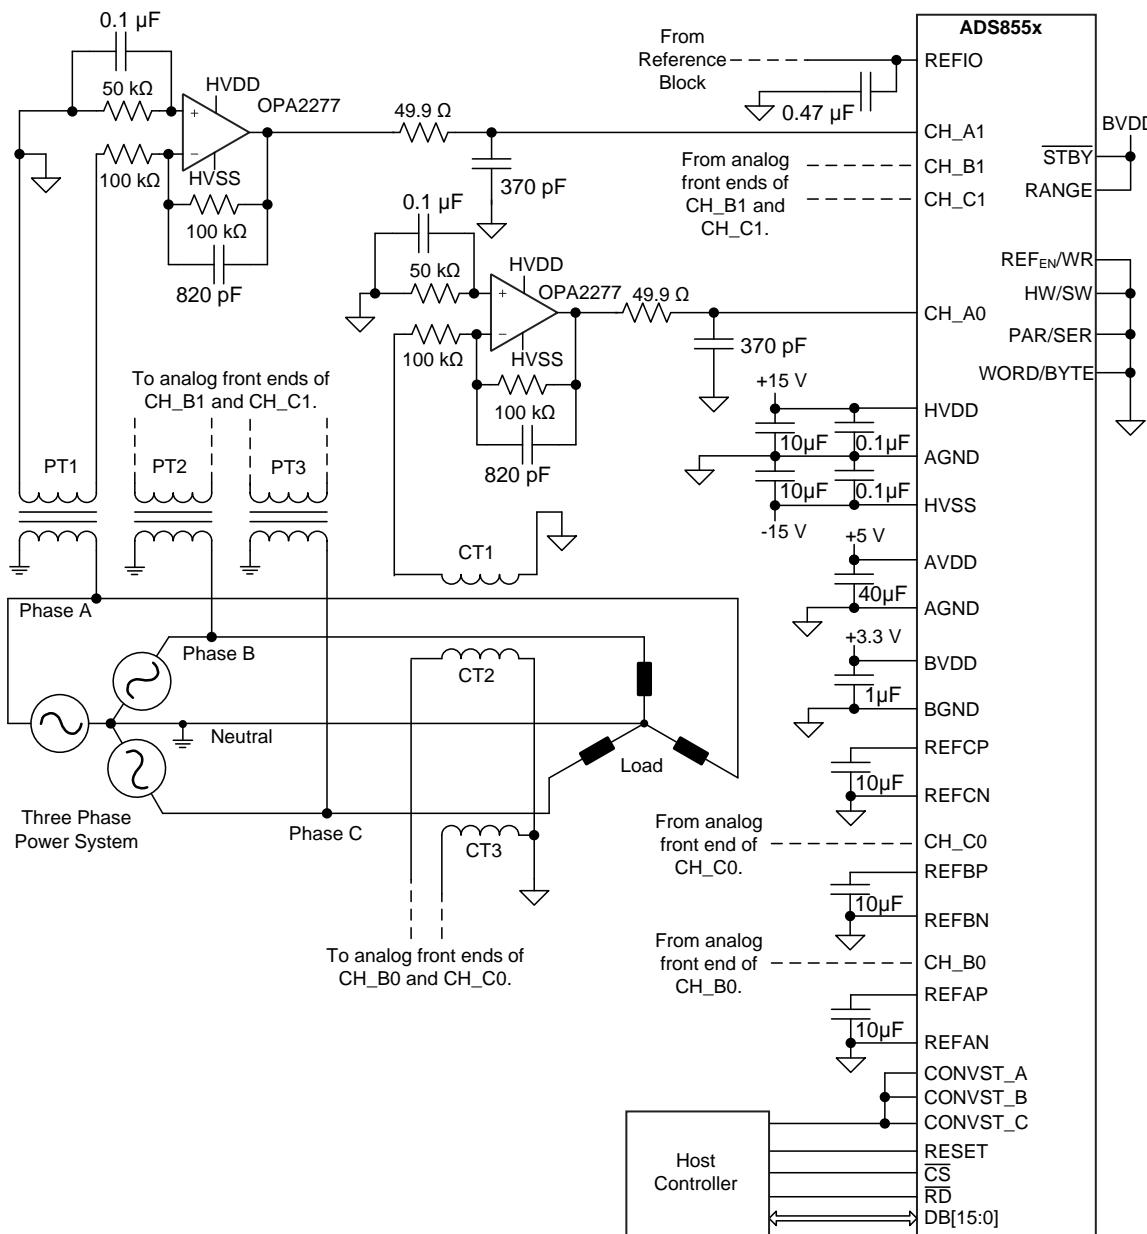

Figure 43. Simultaneous Acquisition of Voltage and Current in a 3-Phase Power System
This section describes the measurement of electrical variables in a 3-phase power system. The accurate measurement of electrical variables in a power grid is extremely critical because this measurement helps determine the operating status and running quality of the grid. Such accurate measurements also help diagnose problems with the power network, thereby enabling prompt solutions and minimizing down time. The key electrical variables measured in 3-phase power systems are the three line voltages and the three line currents; see Figure 43. These variables enable metrology and power automation systems to determine the amplitude, frequency, and phase information to perform harmonic analysis, power factor calculation, power quality assessment, and so forth.
- Output range of the potential transformers (elements labeled PT1, PT2, and PT3 in Figure 43)
- Output range of the current transformers (elements labeled CT1, CT2, and CT3 in Figure 43)
The potential transformers (PTs) and current transformers (CTs) used in the system depicted in Figure 43 provide the six input variables required. These transformers have a ± 10 -V output range. Although the PTs and CTs provide isolation from the power system, the value of R_{IN} is selected as $100\text{ k}\Omega$ to provide an additional, high-impedance safety element to the input of the ADC. Moreover, selecting a low-frequency gain of -1 V/V (as shown in Equation 5) provides a ± 10 -V output that can be fed into the ADS8556 device; therefore, the value of R_F is selected as $100\text{ k}\Omega$.
The primary goal of the acquisition system depicted in Figure 43 is to measure up to 20 harmonics in a 60-Hz power network. Thus, the analog front-end must have sufficient bandwidth to detect signals up to 1260 Hz, as shown in Equation 6.